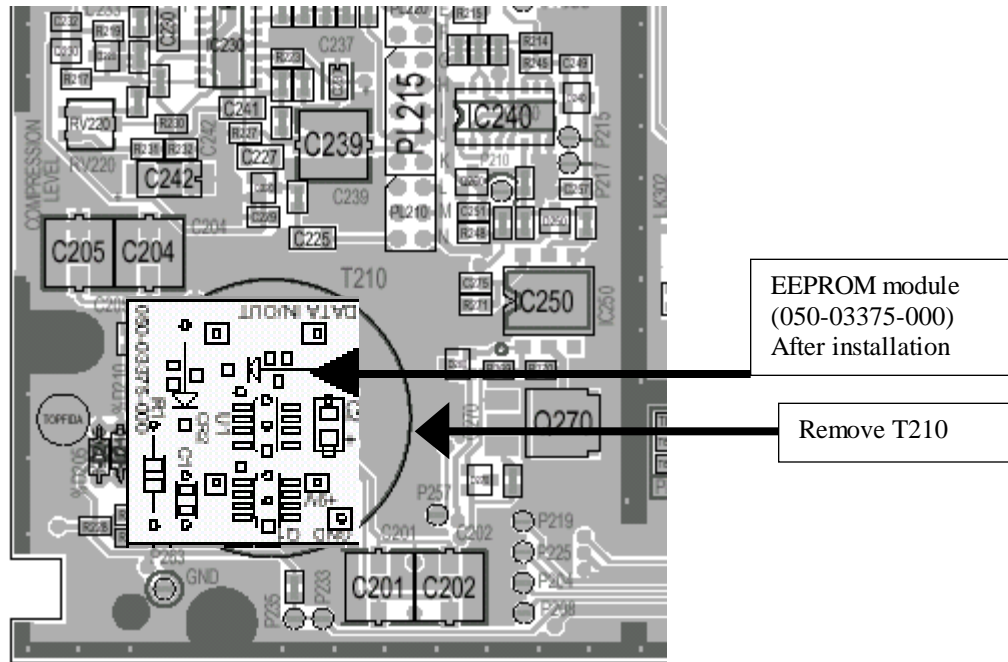

Figure 1- T857 Exciter PCB (rev 220-01398-(03A & 04)), Top Side (EEPROM module) 1/2
3. On the top side (handle side), locate and remove transformer T210 from the audio processor circuit. Refer to Figure 1 page 5.
4. On the top side (handle side), place and solder the EEPROM board at the same location of T210. Make sure not to invert the PCB position. Refer to Figure 1 page 5.
Refer to Figure 1 page 5
Make sure not to invert the PCB position. Refer to Figure 1 page 5